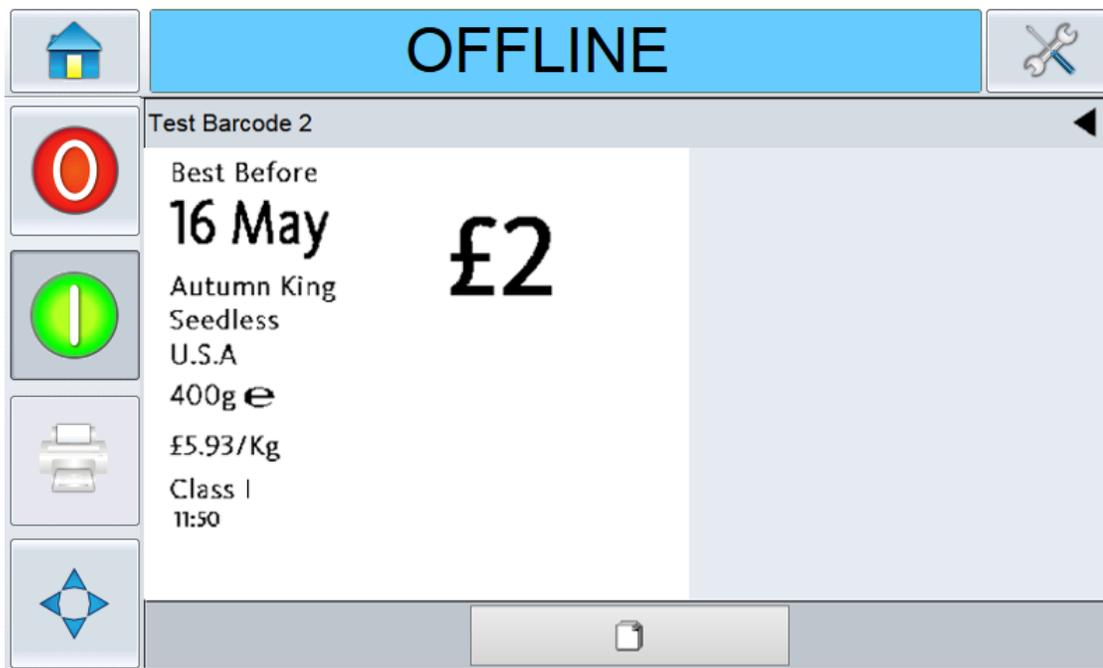

Figure 6-2: Current Job Details Display
1. Touch the current job area on the Home screen. This will display the details of the job, as shown in Figure 6-2.